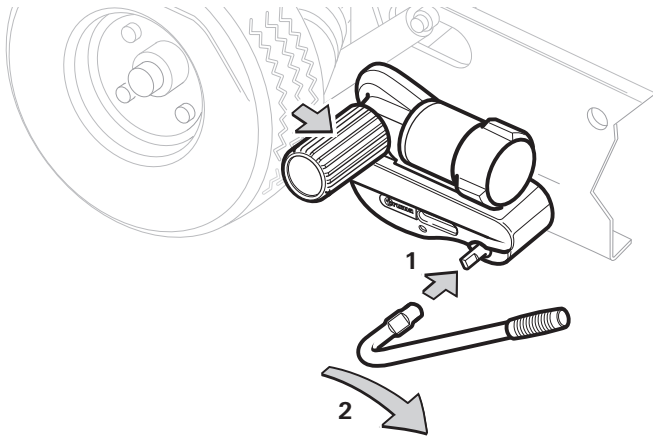
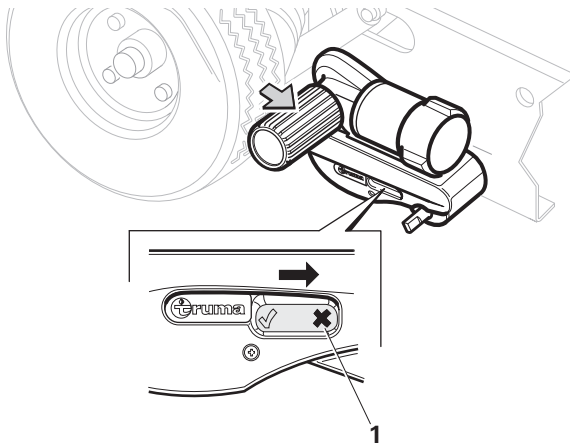

Figure 9
Figure 10
- Attach the engagement lever to the toggle crank (Figure 9 - 1).
- Turn the engagement lever in the direction of the arrow (away from the vehicle wheel) (Figure 9 - 2) until the driver roller engages securely in the end position. The position indicator in the housing is now at "X" (Figure 10 - 1).